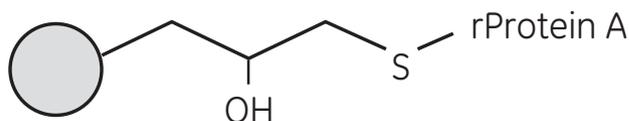
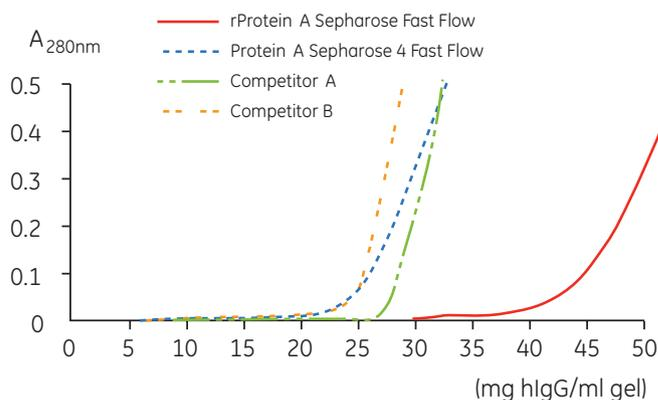

Fig 1. C-terminal cysteine favours oriented thioether coupling.
Fig 2. Breakthrough curves of hlgG for four different Protein A media.
The recombinant protein A has been engineered to include a C-terminal cysteine. The epoxy chemistry is controlled to favour a thioether coupling, providing single point attachment of the protein A, see Figure 1. The oriented coupling enhances the binding of IgG. This is illustrated in Figure 2 showing breakthrough curves of human IgG for four different commercially available protein A matrices.
- + Different levels of breakthrough for the different media (see Figure 2).